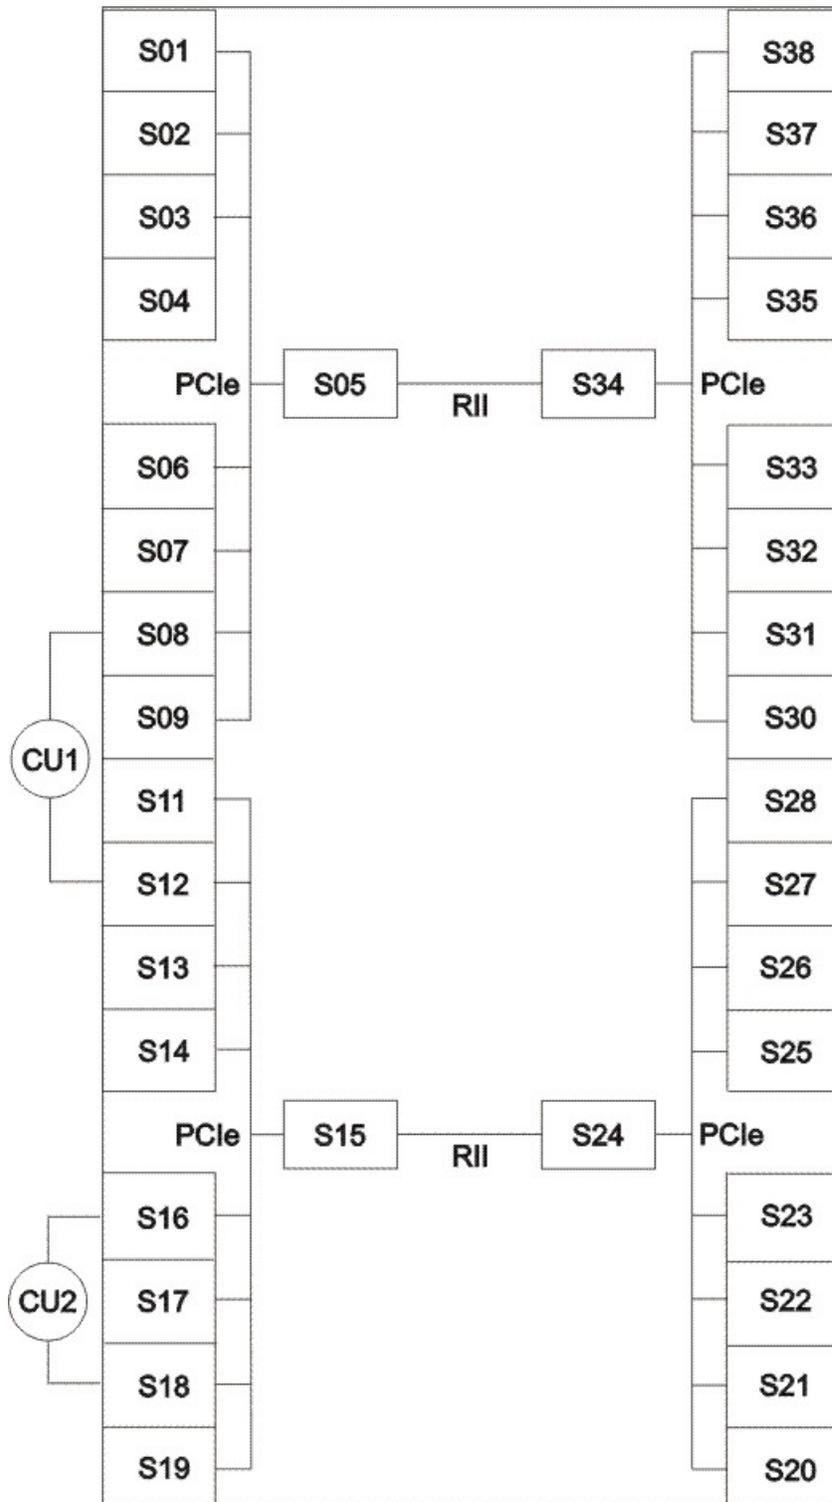
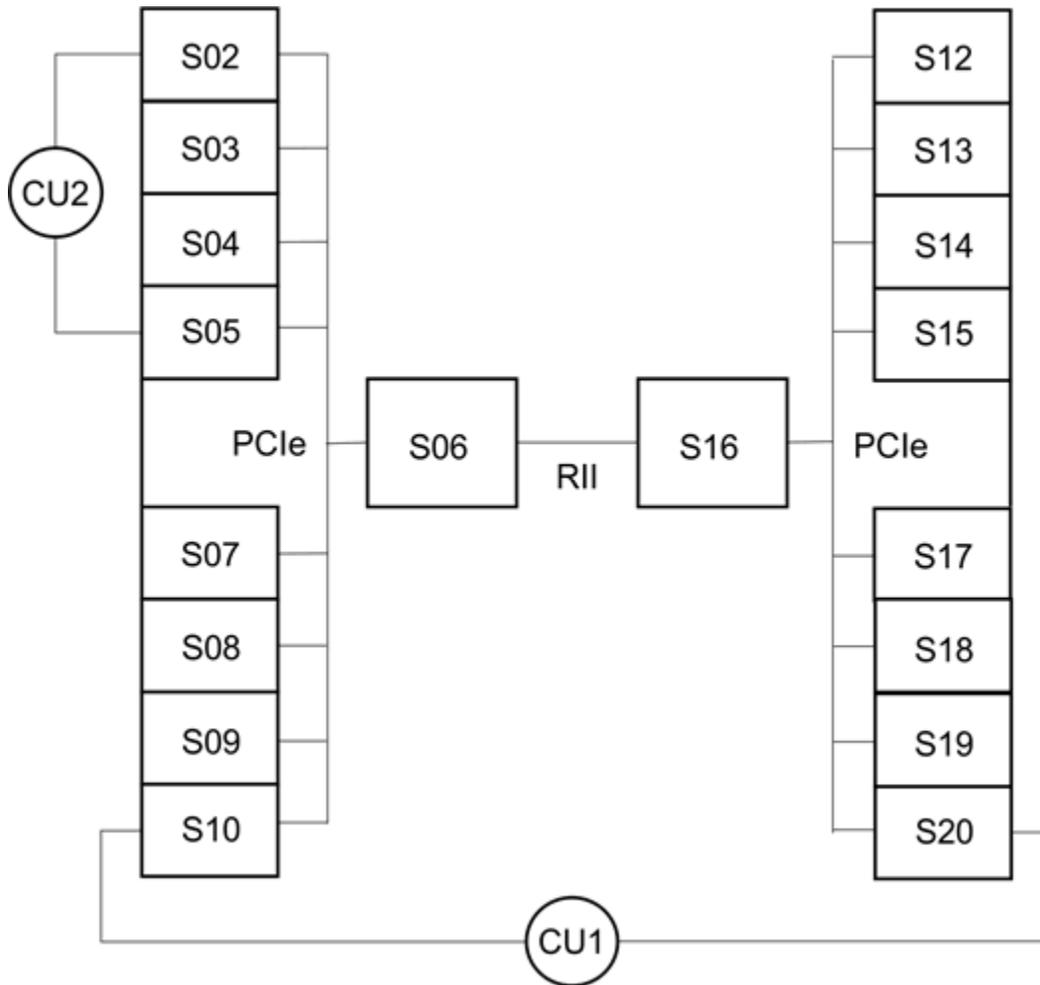
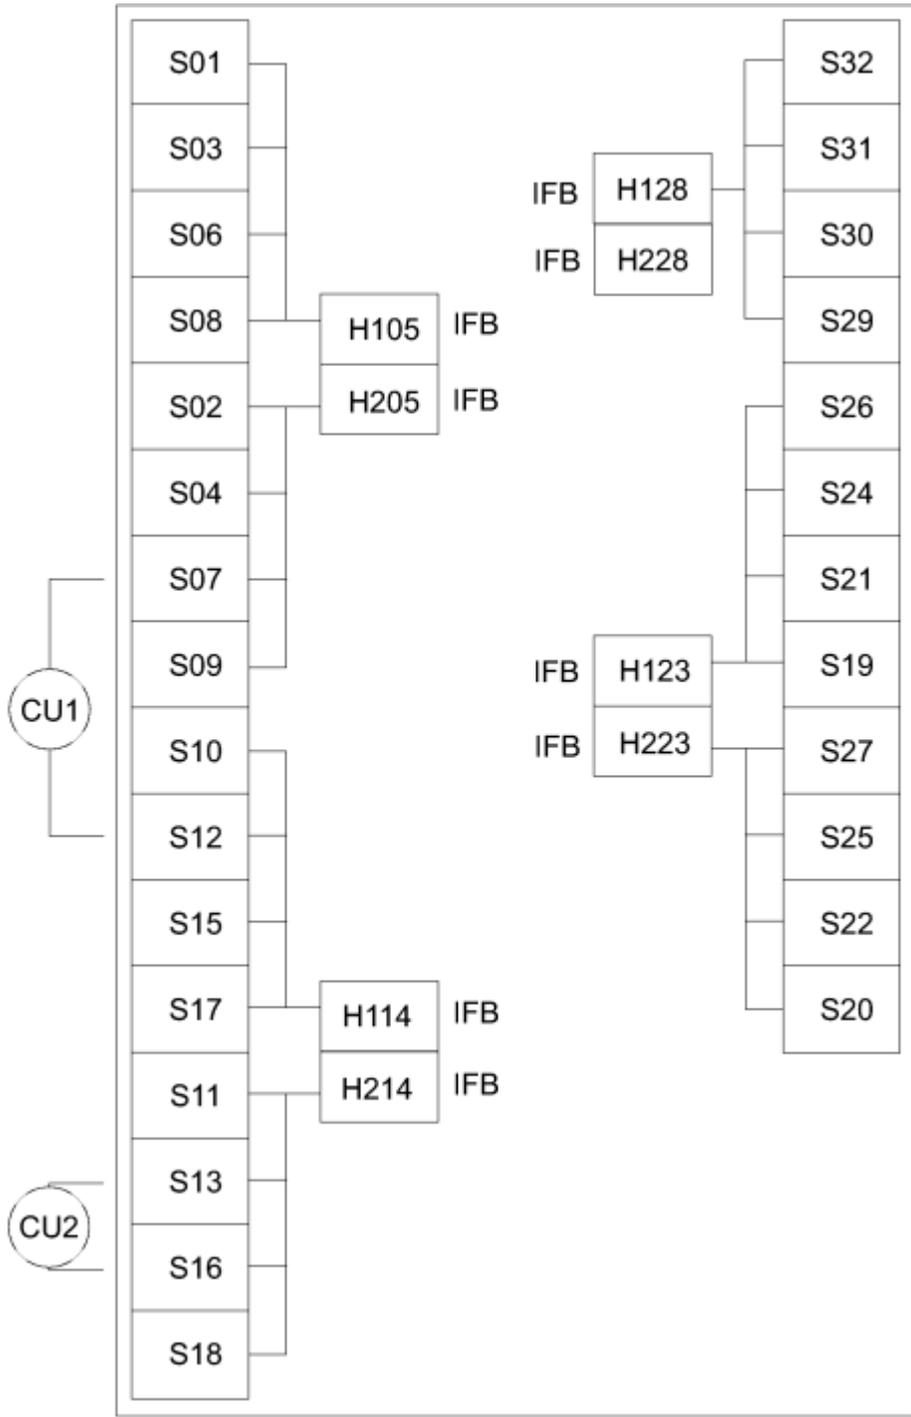
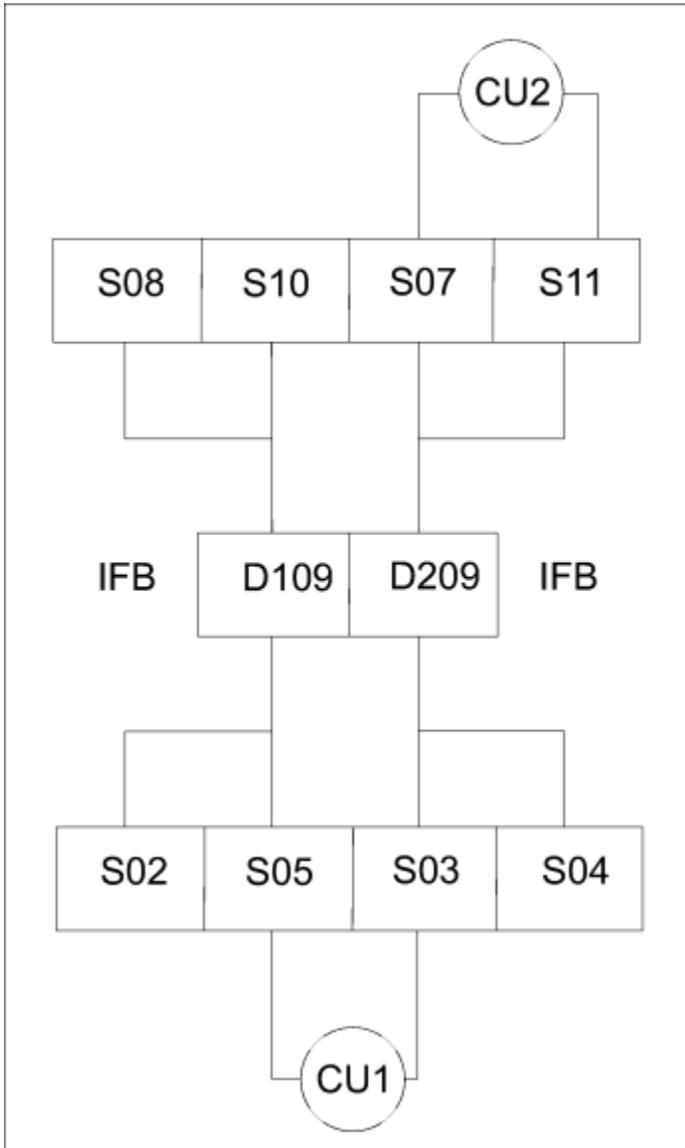

Figure 1. I/O channel path configuration for a representative PCIe I/O drawer in a 2817, 2818, 2827, 2828, 2964, 2965, and 3906 model
Figure 2. I/O channel path configuration for a representative PCIe I/O drawer in a 8562, 8561, and 3907 model
Figure 3. I/O channel path configuration for a representative I/O cage in a 2827 and 2817 model
Figure 4. I/O channel path configuration for a representative I/O drawer in a 2965, 2964, 2828, 2817, 2818, and 2827 model
Figure 1 on page 2 and Figure 2 on page 3 show the major components of the input/output (I/O) subsystem for 8562, 8561, 3907, 3906, 2965, 2964, 2828, 2827, 2818, and 2817 models and suggests ways to configure I/O for maximum availability.
Figure 3 on page 5 and Figure 4 on page 6 shows the major components of the input/output (I/O) subsystem for 2827 and 2817 models and suggests ways to configure I/O for maximum availability.
When configuring devices with multiple paths to the same CPC, select any of the channel paths or PCIe functions shown in Figure 1 on page 2, Figure 2 on page 3, Figure 3 on page 5, or Figure 4 on page 6 that:
- Choose channels or PCIe functions plugged in different I/O domains (see CU 1). An I/O domain in an I/O cage or I/O drawer contains four I/O cards controlled by a single IFB-MP card. For example, the domain for the IFB-MP card in H105 in the I/O cage contains slots 01, 03, 06, and 08 (see Figure 3 on page 5) and in D109 in the I/O drawer contains slots 02, 05, 08, and 10 (see Figure 4 on page 6). An I/O domain in a PCIe I/O drawer contains eight I/O cards controlled by a single PCIe-IN card. For example, the domain for the PCIe-IN card in slot 05 in the 38-slot PCIe I/O drawer contains slots 1-4 and 5-9 (see Figure 1 on page 2).
Redundant I/O Interconnect is a function that allows one IFB-MP or PCIe-IN to back up another IFB-MP or PCIe-IN for a failure or repair. The IFB-MPs in slot 05 of the I/O cage back up each other (see Figure 3 on page 5). The same is true for IFB-MPs in slots 14, 23, and 28. In the I/O drawer, the IFB-MP cards in slot 09 back up each other (see Figure 4 on page 6). The PCIe-IN cards in slots 05 and 34 of the 38-slot PCIe I/O drawer back up each other (see Figure 1 on page 2). The same is true for the PCIe-IN cards in slots 15 and 24. Also, the PCIe-IN cards in slots 06 and 16 of the 20-slot PCIe I/O drawer back up each other (see Figure 2 on page 3). Therefore, in the event an InfiniBand or PCIe cable, fanout card, or book fails, the remaining IFB-MP or PCIe-IN card controls both domains. Certain failures (for example, the IFB-MP or PCIe-IN card) might prevent the redundant takeover, which is a reason to spread your paths over multiple domains.
Note: The examples shown in Figure 1 on page 2, Figure 2 on page 3, Figure 3 on page 5 and Figure 4 on page 6 merely try to illustrate availability guidelines and do not represent overall optimal configurations.